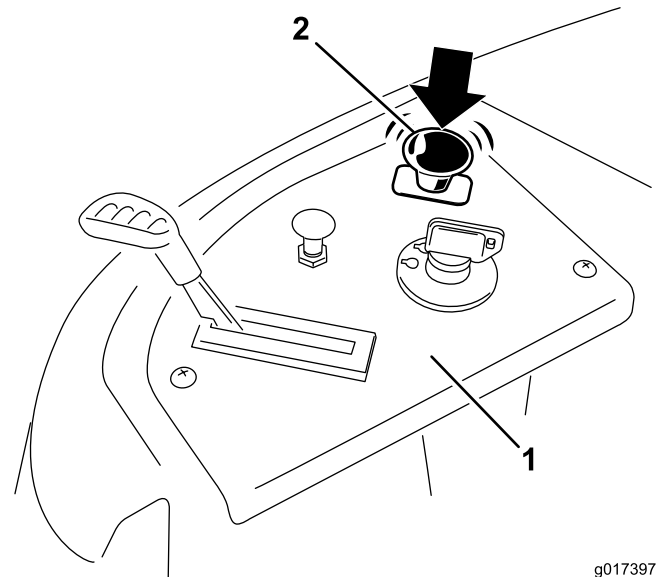

Figure 16
Push down on the blade control switch to move it to the Off position and disengage the blades (Figure 16).
1. Disengage the blades by moving the blade control switch to Off (Figure 16).